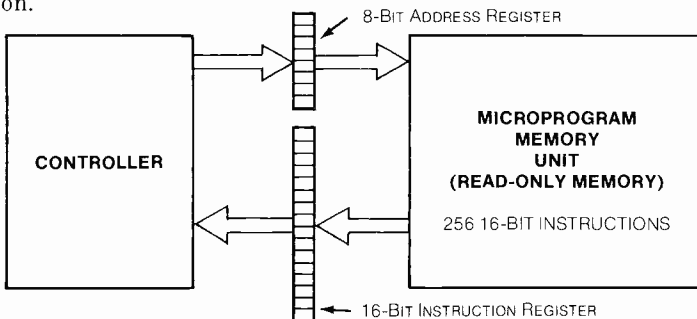
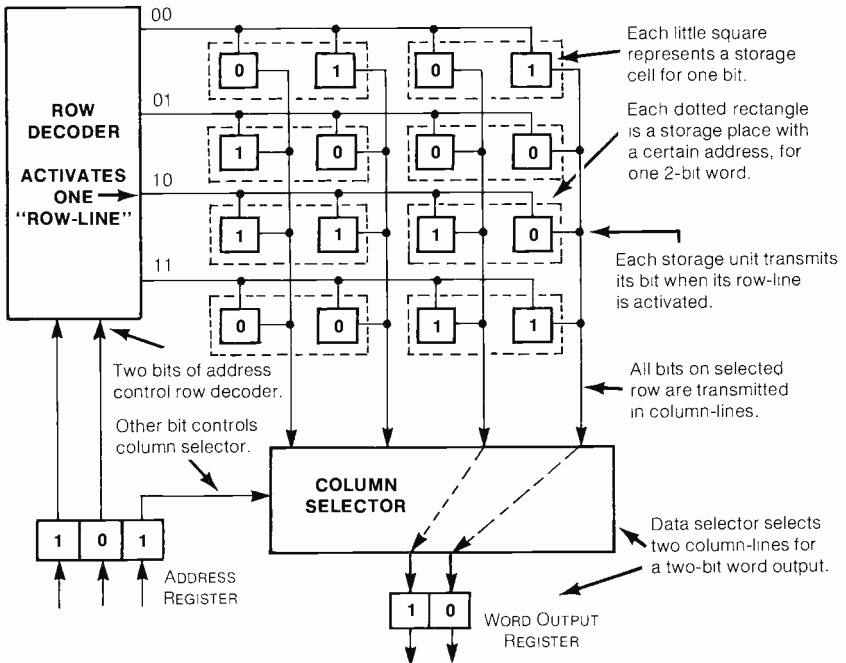

Figure 7-7. Summary of the job of a microprogram memory unit in a typical calculator
Figure 7-8. A simple random-access memory storing eight 2-bit words, showing typical rectangular pattern and method of “accessing” by row and column lines
First, let's recall from Chapter 1 what the microprogram memory does, as shown in *Figure 7-7*. To begin with, the controller puts an "address" number in the address register. In response, the memory unit locates an instruction (stored when the chip was made) in a place identified by that address within the memory. A copy of the instruction is put in the instruction register for the controller to use. Note that *any* instruction can be "read" at any time, in any order. So this is a *random-access* rather than a serial-access memory, but one that can *only be read*, not written into. You can't change the data stored at any memory location.
Figure 7-8 shows the general idea of how one-bit storage units (or “cells”) of *any sort* would typically be arranged so that stored information can be read out at random. (The same arrangement works for *writing* too, as we'll see later.) For the sake of simple explanation, this memory stores only 16 bits, as eight “words” of two bits each. A “word” is a group of bits that are *stored together* in a random-access memory, and also *processed together* when possible. (For example, each 16-bit instruction stored by the microprogram memory in Figure 7-7 is a word.)
The one-bit storage cells in *Figure 7-8* are arranged on the chip in a square pattern of four horizontal “rows” and four vertical “columns.” Each cell is connected to one of four horizontal “row-lines” and one of four vertical “column-lines.” The two cells for a given word are on the *same row line*. (By comparison, the calculator ROM would have 64 rows, each storing four 16-bit words.)
Addressing eight words requires *three-bit* address numbers, running from zero to seven. (In *Figure 7-8*, we’re addressing word number five–101). Two of the address bits go to a “row decoder,” causing it to activate one of the four row-lines (in the figure, it’s row number two, or binary 10). This makes all four cells in that row transmit their bits in their column lines. Of these four bits, two (one word) are selected by the “column selector.” This is a data selector controlled by the remaining bit of the address (1, in the example). Thus, the addressed word (10) is placed in the “word output register.”
Dynamic RAMs fit the general pattern for all random-access-type memories that we discussed in *Figure 7-8*. (Remember, we said you'd see those general features in *all* memories with random access.) Electric charges are put into the cells through the column lines and *read out through the same lines*, using appropriate switching circuitry in the "column selector" section. As in all dynamic storage units, the stored charges decay in a fraction of a second, so they have to be "refreshed" often by one method or another.